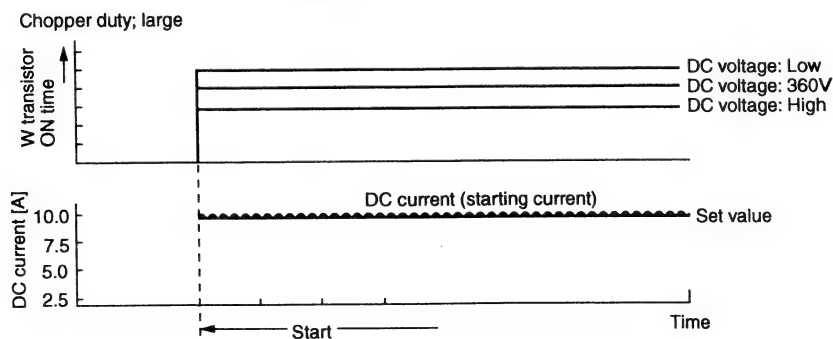

Fig. 8-7
- (2) As shown in Fig. 8-7, ON time of W+ transistor changes according to DC voltage level so that starting current is about 10A.